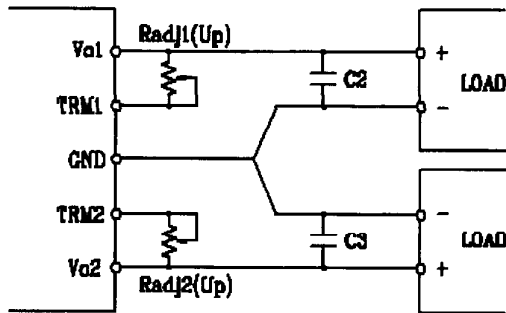

Fig.3-2 : Connection for output voltage trim up
- a) Vo1/Vo2 terminal : to adjust to higher output voltage; Fig.3-2 or